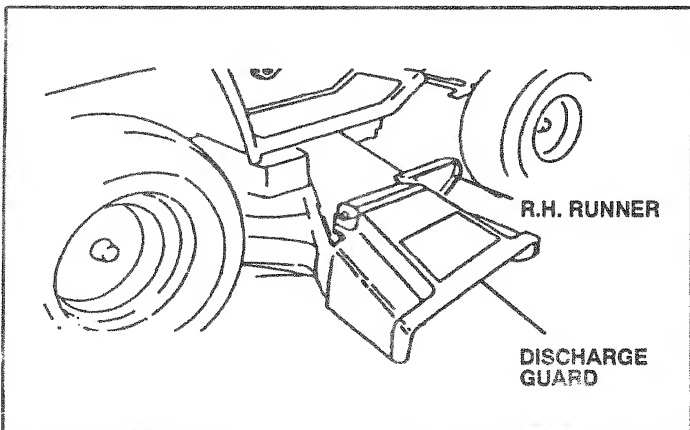

FIG. 14
- Use the runner on the right hand side of mower as a guide. The blade cuts approximately an inch outside the runner (See FIG. 14).